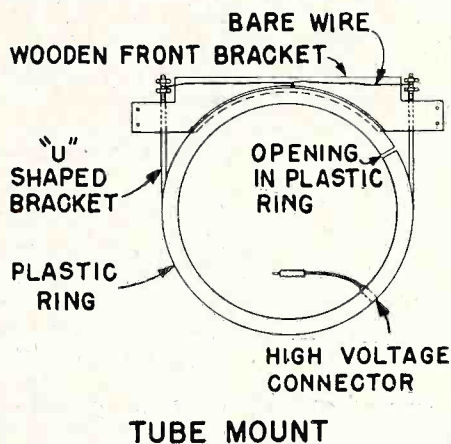

Fig. 1. Front mounting of kinescope, Sears 110.499 Series.
(1) Remove the back cover by removing the screws holding it to the cabinet.
(2) Be sure that the kinescope tube protector (cup) is mounted on the outside of the cabinet back. If it is mounted on the inside, turn it around.
(3) There should be a wooden block mounted in the center of the lower back rail to protect the portion of the kinescope tube extending beyond the cabinet. If it is not there, it will be found in back of the power transformer, remove it, and mount it on the rail.
(4) Unscrew top panel and pull straight out. Do not remove the focus and deflection coils from the panel.
(5) Remove the plastic insulating ring by loosening the two nuts holding the kinescope "U" shape mounting ring and unwrapping the bare wire from the top ends of the mounting ring. (It is not necessary to take the nuts off. Loosen them until you can take the plastic insulating ring out.)
(6) Remove the high voltage connector from the ring.
(7) Remove the wire from the plastic ring. The wire will be used later.
(8) Remove the 5U4 tube.
(9) Place plastic ring on kinescope tube with trade mark facing the neck of the tube.
(10) Place high-voltage connector under the plastic ring in the position indicated in Fig. 1.
(11) Place bare wire in the outer groove of the plastic ring and twist, leaving two equal ends as indicated in Fig. 1.